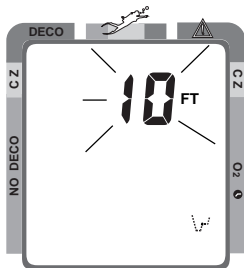

Fig. 25 - Set Sampling Rate
- the Rate setting appears flashing (Fig. 25)